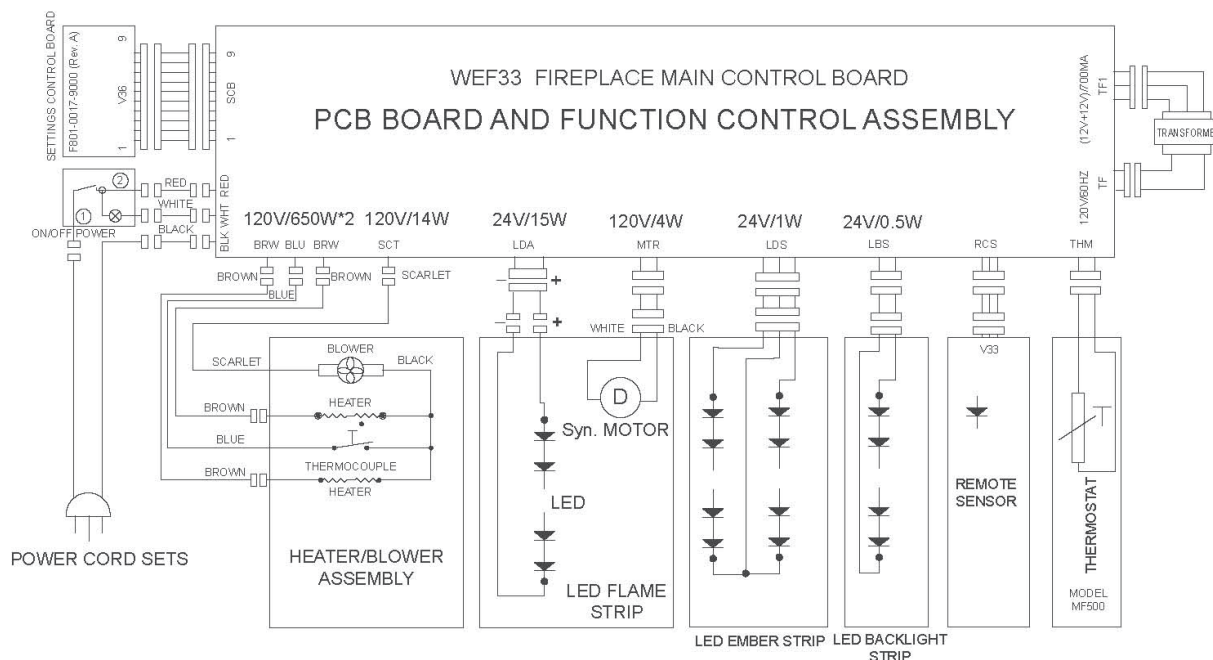

Figure 15
11. Reconnect wires to main circuit board. *Figure 15 or 16*
6. Reconnect transformer wires to control board. Refer to Wiring Diagram, *Figure 15 or 16*.
5. Reconnect wires to main control board. Refer to Wiring Diagram, *Figure 15 or 16*.
5. Connect wires to main control board. Refer to Wiring Diagram, *Figure 15 or 16*.